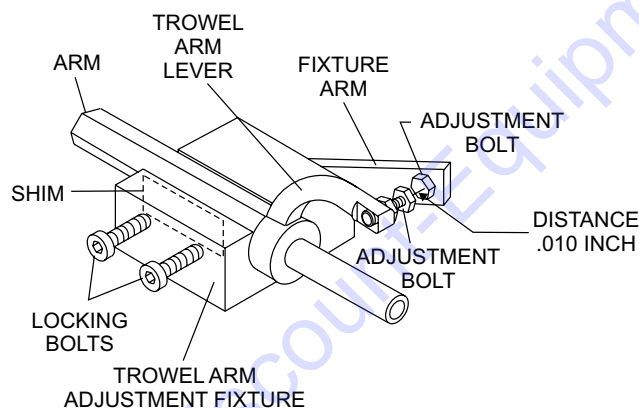

Figure 68. Trowel Arm Adjustment Fixture
3. Next, check the clearance between the round shaft and the test surface as one of the flat hex sections of the arm rests on the test surface. Rotate the arm to each of the flat hex sections and check the clearance of the round shaft. Use a feeler gauge (Figure 68) of .005 inch (0.127 mm). Each section should have the same clearance between the round of the trowel arm shaft and the test surface.
1. Unscrew the locking bolts on the adjustment fixture and place the trowel arm (lever attached) into the fixture channel as shown in Figure 68.
5. Adjust the bolt distance shown in Figure 68 to match one of the arms. The other arms will be adjusted to match this distance.